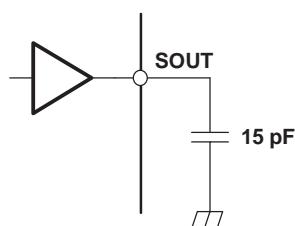

Figure 4. Test Circuit for  $t_{r0}$ ,  $t_{f0}$ ,  $t_{pd0}$ ,  $t_{pd1}$
(1) See Figure 4. Defined as from 10% to 90%
(3) See Figure 4, Figure 16